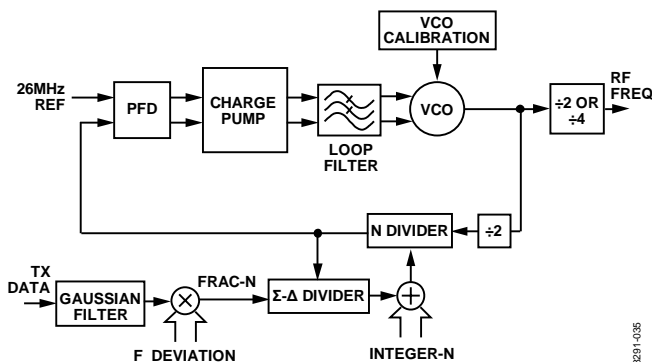

Figure 107. RF Frequency Synthesizer Architecture
A fully integrated RF frequency synthesizer is used to generate both the transmit signal and the receiver's local oscillator (LO) signal. The architecture of the frequency synthesizer is shown in Figure 107.